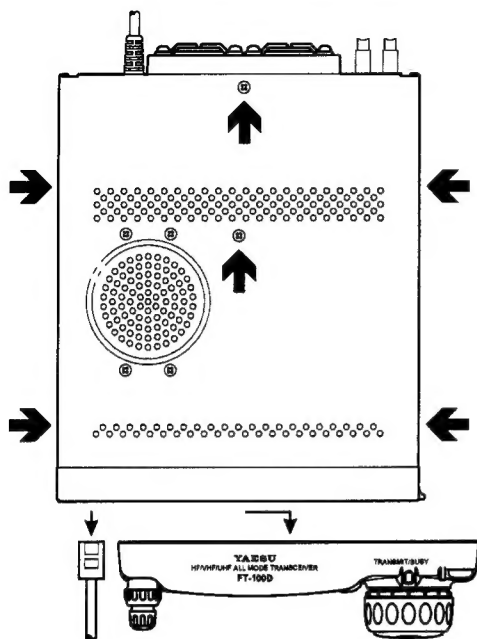

Figure 1
2. Referring to Figure 1, remove the six screws affixing the top case of the transceiver, and remove the top case; disconnect the speaker's connector when you remove the top case, and disconnect the front panel of the transceiver. Remove the **MIC** connector at the same time.